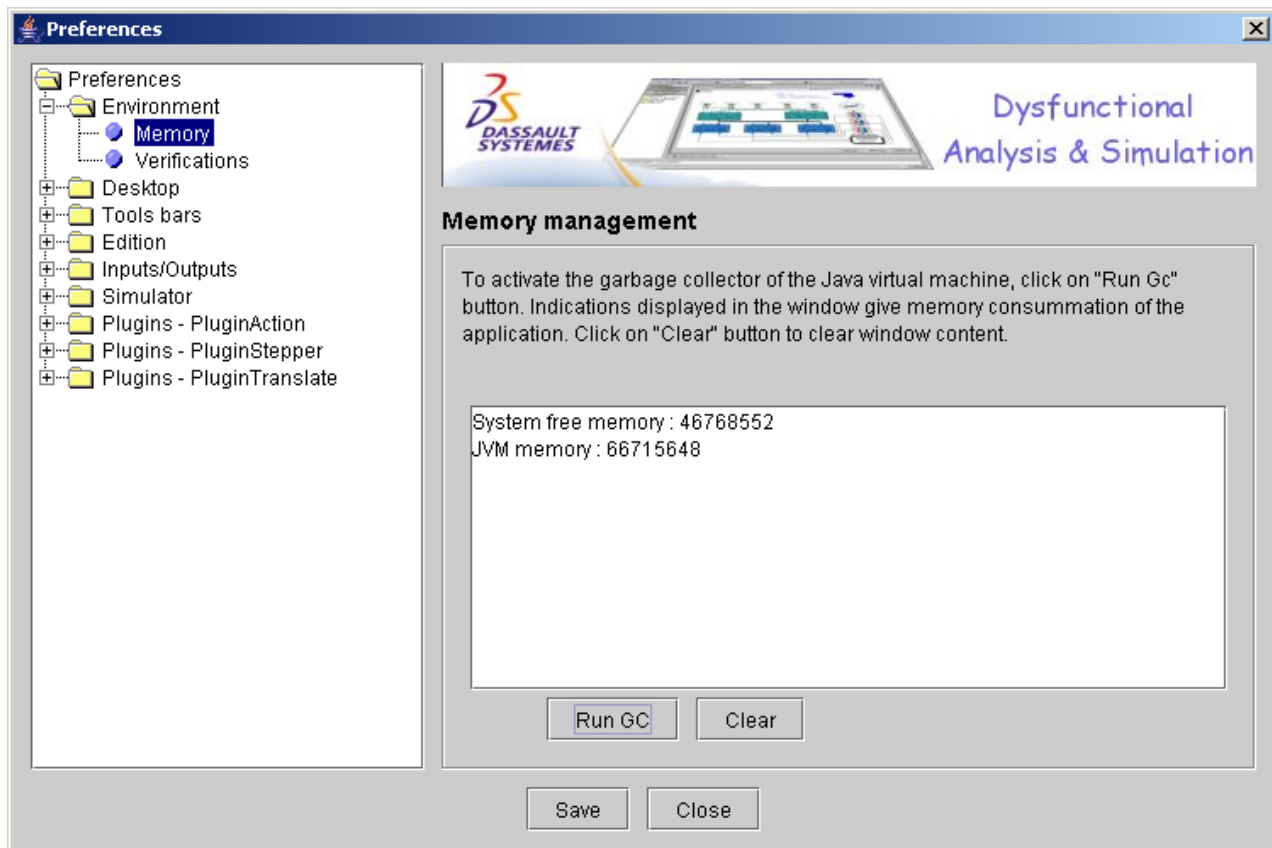

Figure 201 : Memory management
N.B: Sub-rubric **Memory** (Figure 201) is for maintenance only.